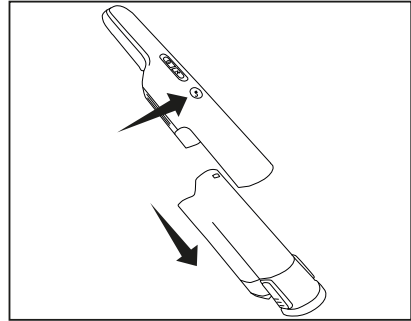

Fig. 4
1. Push the dust bin removal button while pushing the dust bin away from the vacuum to remove it from the vacuum (Fig. 4).